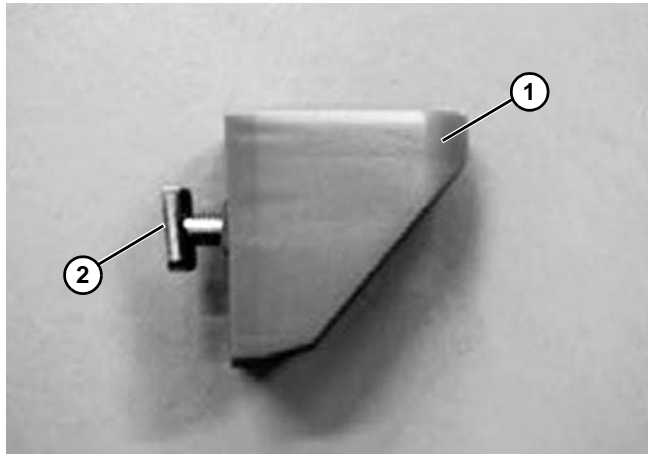

Figure 84
1. Prepare the heavy-duty guide rail bracket (**Figure 84, item 1**) with T-bolt (**Figure 84, item 2**).